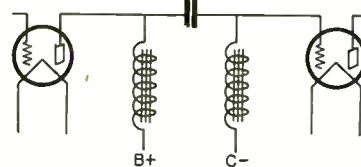

Fig. 2. Schematic diagram of a single stage tuned double impedance amplifier
In Fig. 2 we have a driver circuit of a little better design from the standpoint of feed-back. Undoubtedly, the plate coil could be made to give a
- FIG. 2 -
voltage. What actually happens is that the one condenser discharges through the load while the other is being charged. Hence if the broken line (Fig. 2) represents the potential of the point D with respect to O, the curves A,A1 and B,B1 will represent the potentials of A and B respectively